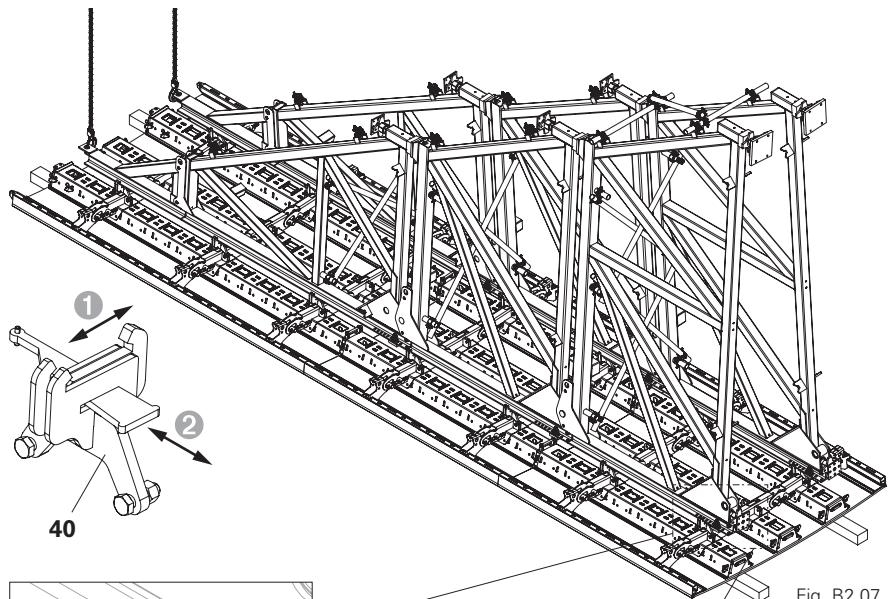
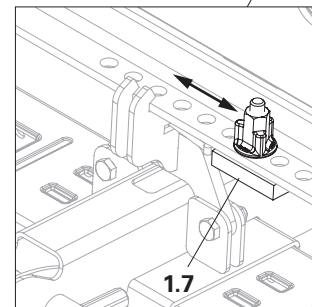

Fig. B2.07
Fig. B2.07b
1. Fix the Brace Frame Connectors SB/RFP (40) to the brace connectors of the outer trapezoidal profiles, AF 24.
3. Lift the brace frame into the open Brace Frame Connectors SB/RFP (40) with the crane.
4. Close the Brace Frame Connectors SB/RFP (40) and hammer the wedges into place. (Fig. B2.07 – Fig. B2.07b)